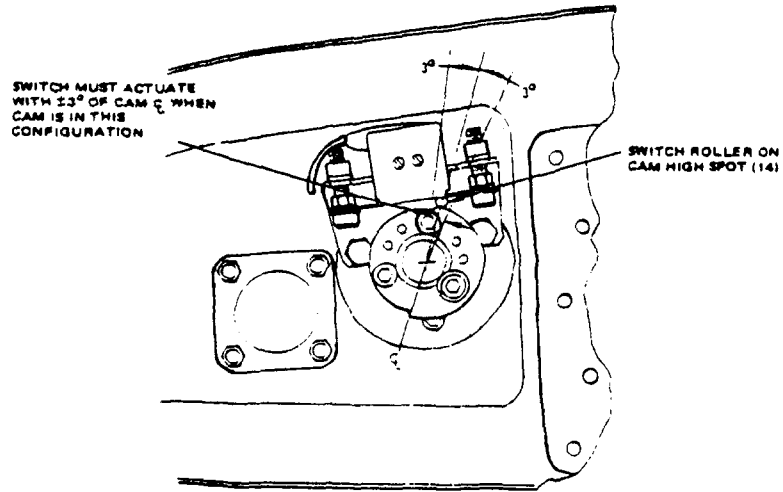

Figure 202 - Throttle Position Limit Switch Actuation Requirements
- (6) With engines shut down, advance throttle levers to marked 80 percent N1 RPM position. Secure throttle levers with throttle friction lock.
- (7) Loosen screws (1) and rotate cam (4) until switch (14) roller is at a point where cam just actuates the switch. Tighten screws (1).
- (8) Return throttle levers to idle position and then advance them to marked 80 percent N1 RPM position on quadrant. During this step, check that switch (14) actuates within  $\pm 3^\circ$  of cam centerline as shown in Figure 202.